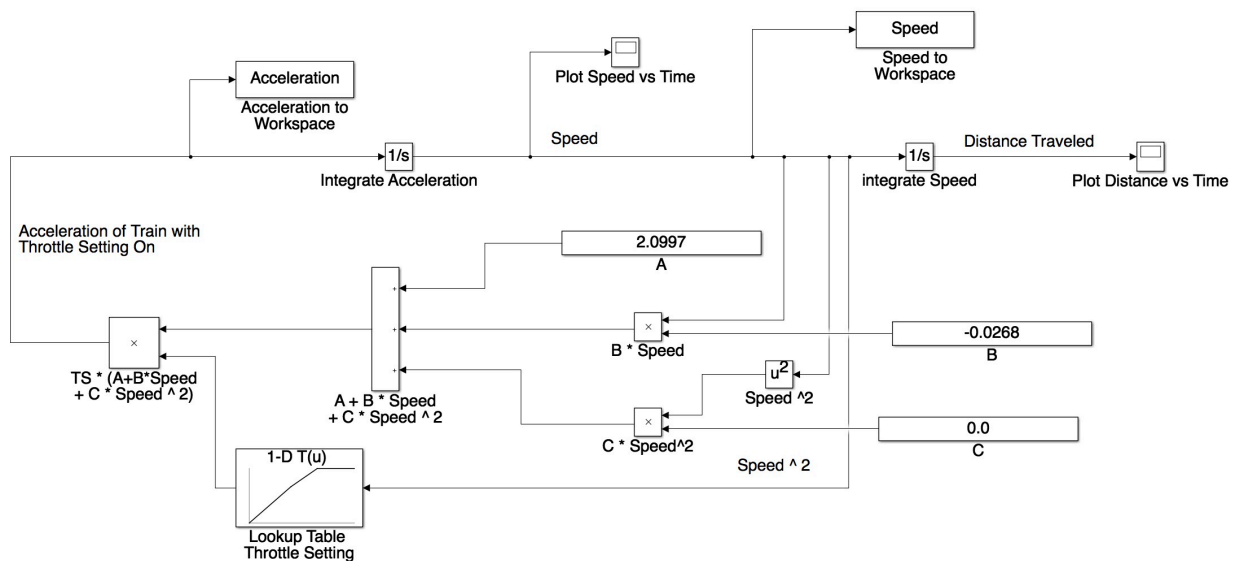

Figure 2. Revised Simulink Model with Variable Throttle Control. The Table Lookup Block Simulates the Throttle Control Described in the Problem Statement.
Define **TS** as the throttle setting parameter. **TS** is a non-dimensional parameter that indicates the fraction of acceleration to be used by the train engineer for a given train speed. For example, at 40 m/s the value of **TS** is 0.85 (85% of the maximum acceleration potential). The value of **TS** is a function of train speed (V) and is programmed in Simulink as a table lookup function (see Figures 2 and 3). The revised acceleration of the train is,